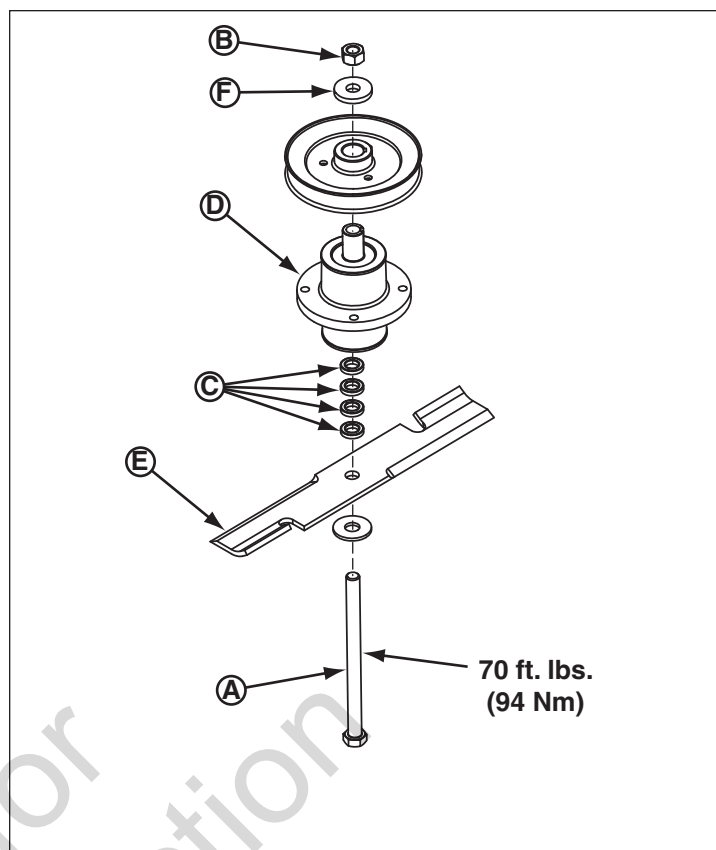

Figure 7. Adjusting the Number of Blade Spacers Below Each Spindle
4. Using tools, hold the blade bolt (**A, Figure 7**) and loosen and remove the spindle nut (**B**).